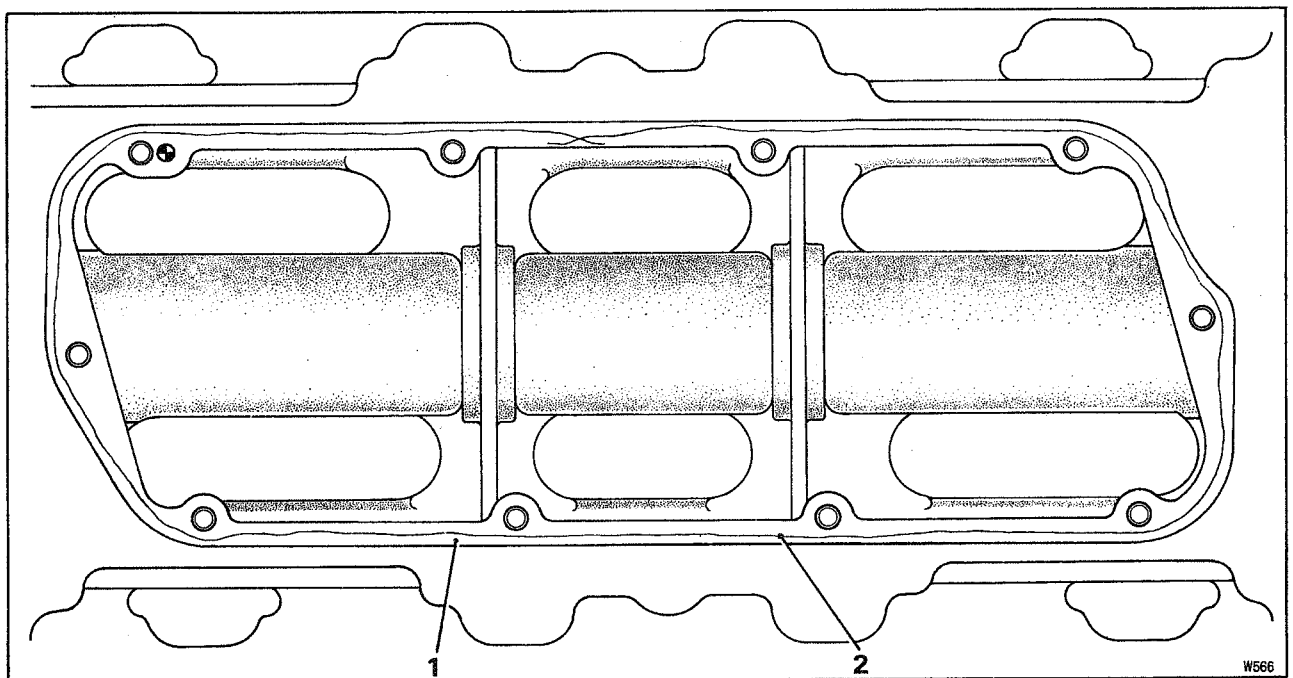

Fig. E30 Crankcase to tappet cover joint
4. Wellseal the crankcase tappet cover joint face, then fit a new length of sealing thread to the face. Fit the thread so that its two ends overlay and it surrounds all the tapped holes in the crankcase (see Fig. E30).